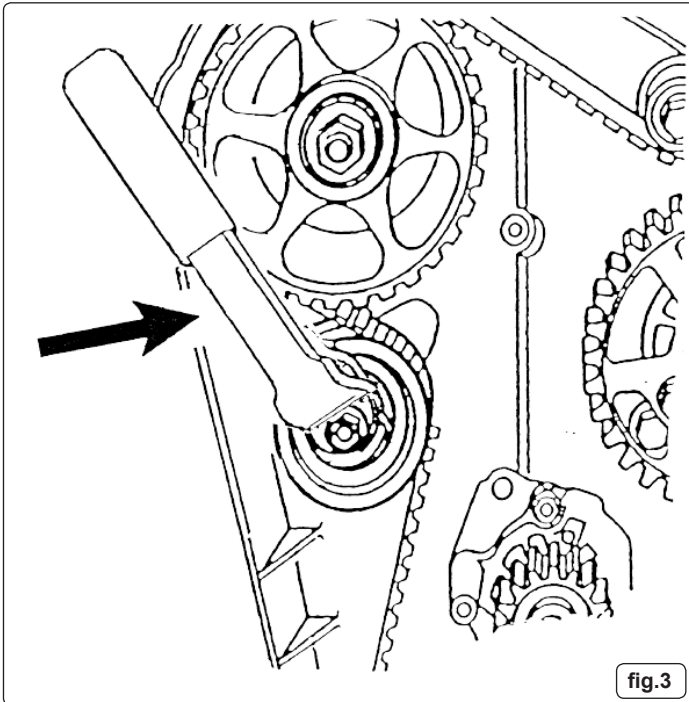

fig.3
4.5.1 Fit VS124/03 Tensioner Adjuster into the two holes in the tensioner pulley and turn it **clockwise** until the 'notch' on the pointer is aligned with the dowel pin, and tighten the pulley bolt (fig.3).